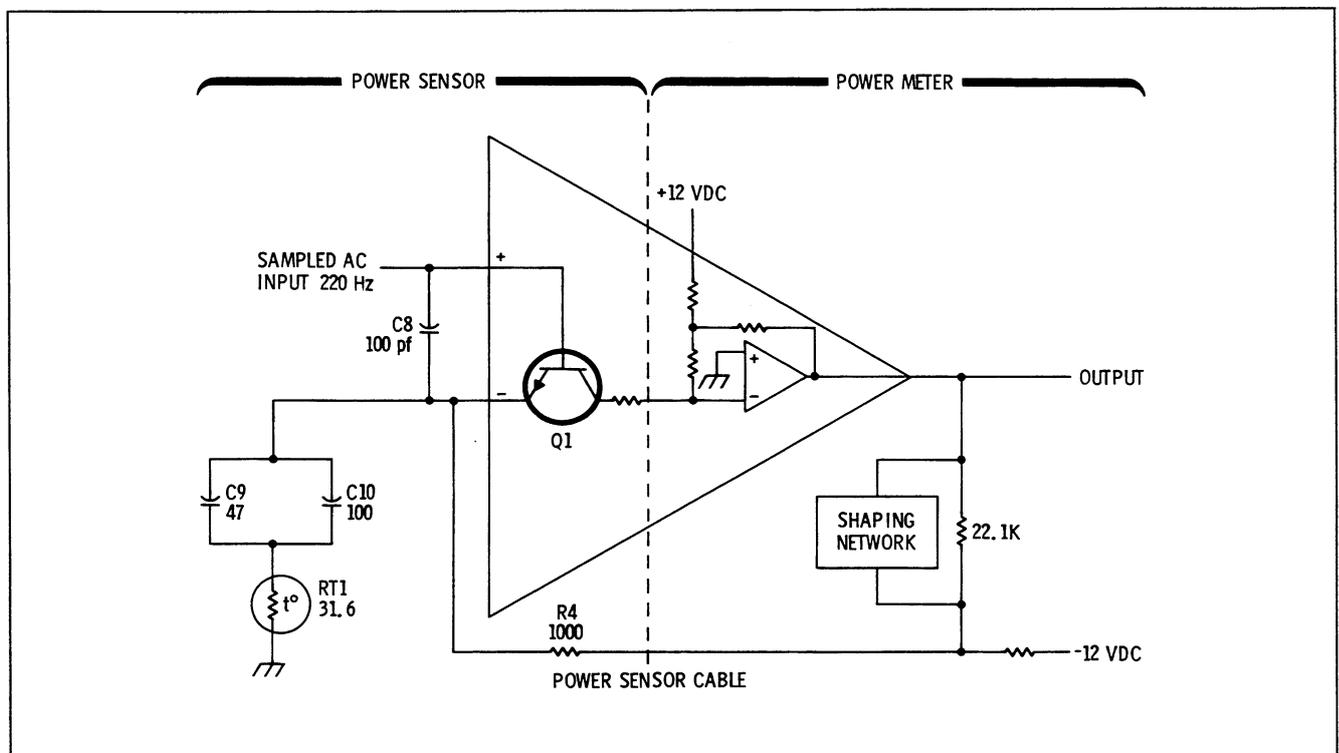

Figure 6. Operational Amplifier
For the following discussion, refer to the schematic diagram in Figure 5 and the simplified diagram of the operational amplifier in Figure 6. The operational amplifier is made up of the Power Sensor input amplifier, A2Q1, and the first amplifier stage in the power meter.
In most cases, the operational amplifier (made up of A2Q1 and the first amplifier in the power meter, (Figure 6) is operating correctly if the dc voltage on the metal cover of A2Q1 (collector) is  $-70 \pm 30$  mV dc.
- a. At rear of Power Sensor, insert blade of small screwdriver between the plastic shells (Figure 6).